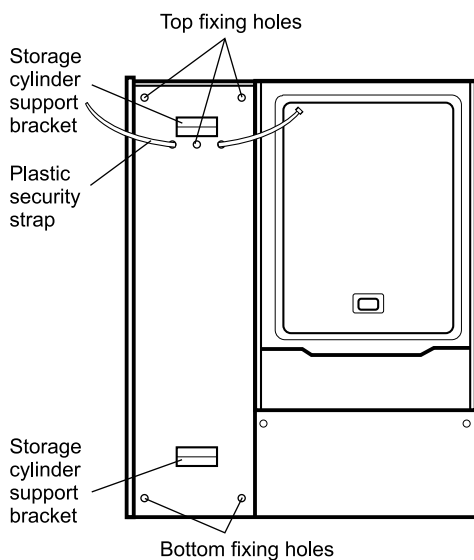

Fig. 7
4.4 FIT THE COMBIMAX - Figs. 7 and 8
2. Drill five wall fixing holes (8 mm dia.) through the mounting frame (as shown in Fig. 7) and secure with the screws and plugs provided.
3. Hang the storage cylinder on the mounting frame, ensuring the top and bottom brackets on the store locate on the supports on the frame (see Fig. 7). Pass the plastic security strap around the cylinder and secure in position (see Figs. 7 and 8).